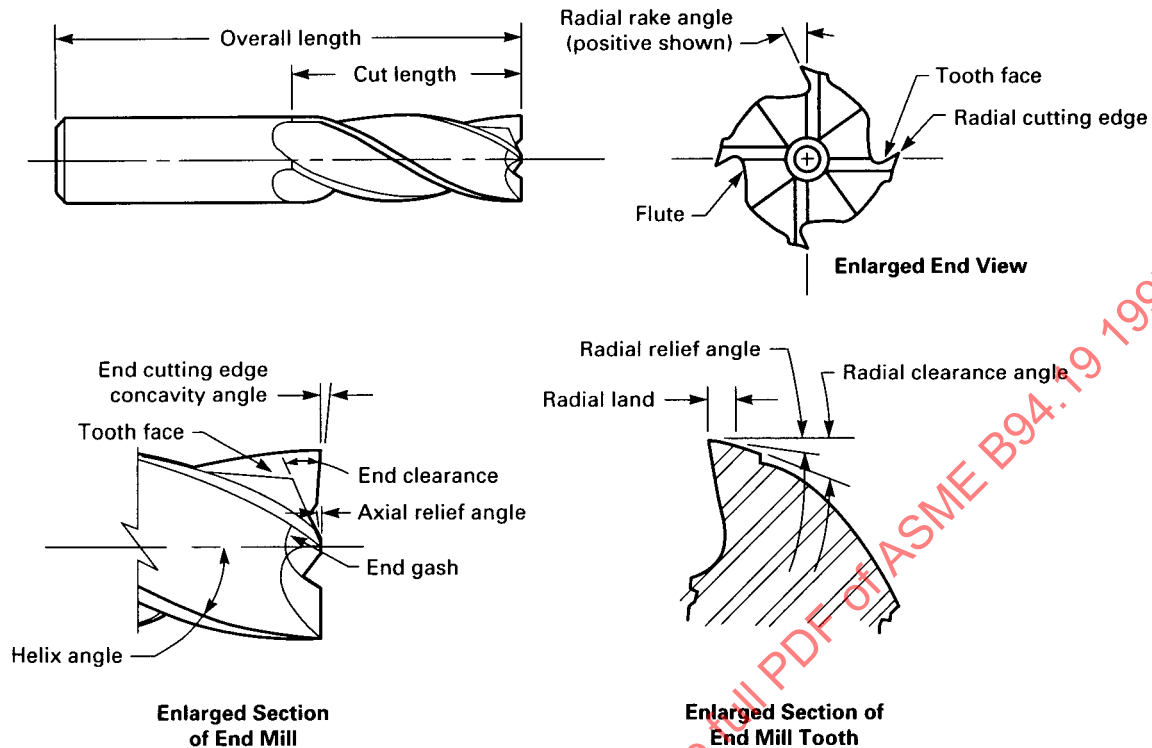

FIG. 2 END MILL TERMS
*end mill:* a milling cutter that is shank mounted to the machine tool and has cutting teeth on the end in addition to those on the periphery. It may be of single or double end construction (see Fig. 2).
*length of cut*: as applied to end mills, the effective axial length of cutting edge (not including the cutter sweep; see Fig. 2).